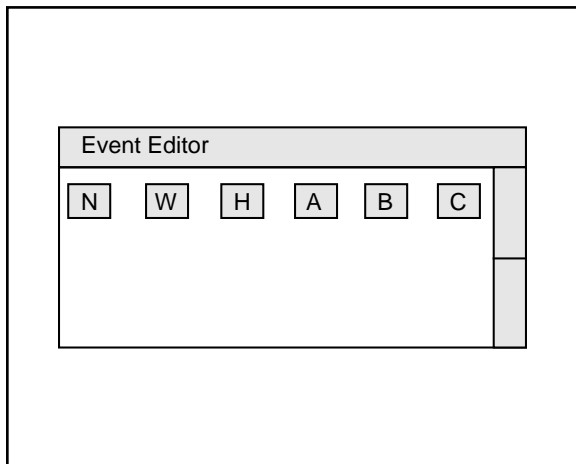

Figure 42. Event Editor Menu
4. Choose from **N, W, H, A, B**, or **C** to select the DayType to be edited (see Figure 42).